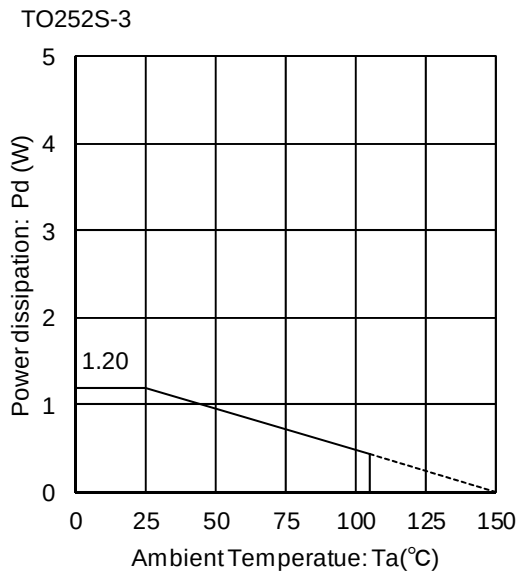
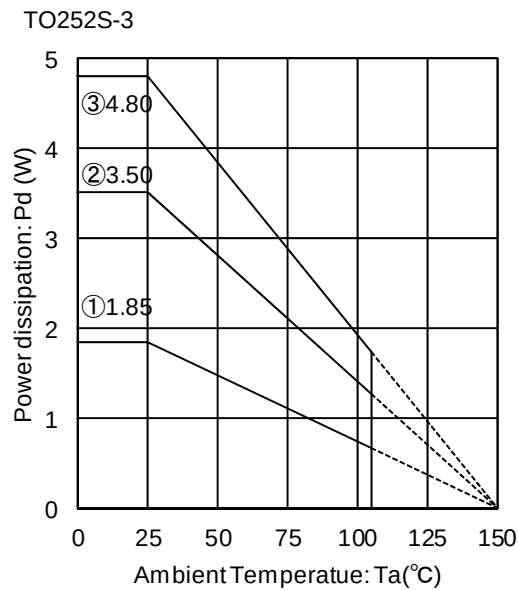

Figure 25.
Figure 26.
When used at temperatures over $T_a=25^{\circ}\text{C}$, please refer to the power dissipation curve shown in Figure 25 and Figure 26. The IC characteristics are closely related to the temperature at which the IC is used, so it is necessary to operate the IC at temperatures less than the maximum junction temperature $T_{j\text{max}}$.
Figure 25 and Figure 26 show the acceptable power dissipation curve of the TO252S-3 package. Even when the ambient temperature T_a is at normal temperature (25°C), the chip (junction) temperature T_j may be quite high, so please operate the IC at temperature less than the acceptable power dissipation P_d .
The calculation method for power consumption $P_c(\text{W})$ is as follows : (Figure 26③)
$$\left(\begin{array}{l} \text{Figure 26③ : } \theta_{ja}=26.0^{\circ}\text{C/W} \rightarrow -38.4\text{mW/}^{\circ}\text{C} \\ 25^{\circ}\text{C}=4.80\text{W} \rightarrow 85^{\circ}\text{C}=2.496\text{W} \end{array} \right)$$